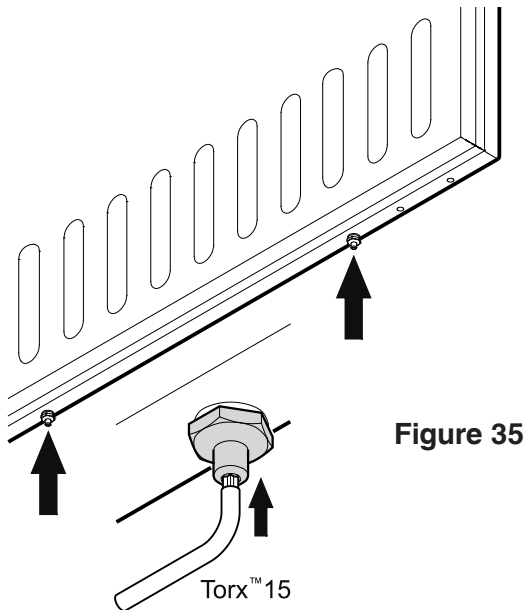

Figure 35
1. Turn in the adjusting bolts on the bottom of the refrigerator door as far as possible (**Figure 35**).